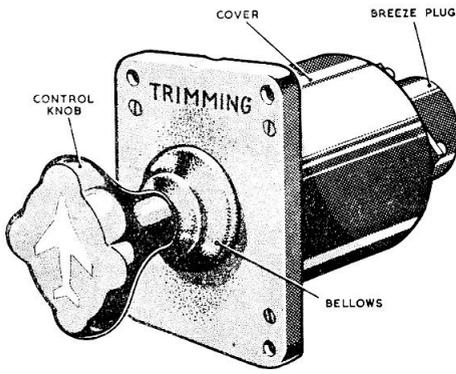

Fig. 1. Trim switch, Type TS 261
1. The trim switch, Type TS 261, Mk. 19 (fig. 1) is designed primarily for use on aircraft in conjunction with an automatic pilot.